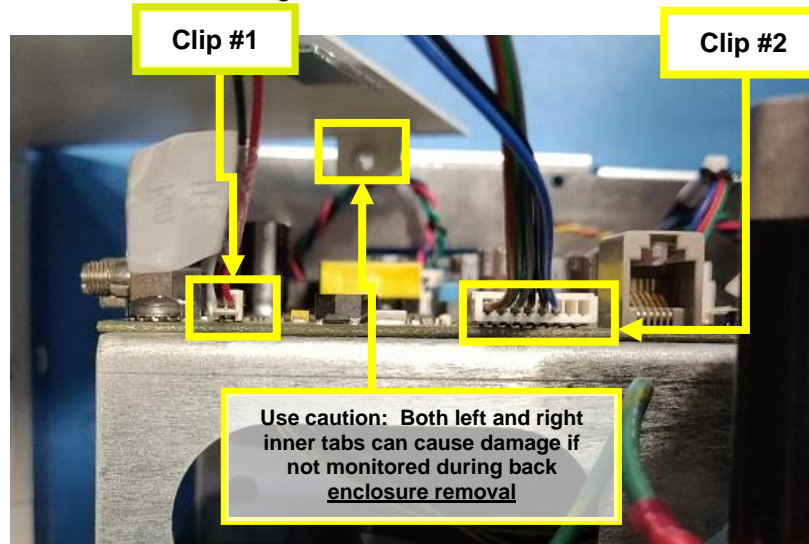

Figure 5
- Once you have the back and front enclosures split as shown above, you will see two sets of wires leading from the printer to the main electronics board. Disconnect these two wire sets from the top of the main board. Figure 5